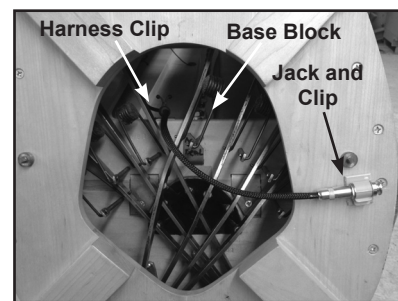

Figure 8 – Using the Jack Clip
1. Route the free end of the pickup harness and the jack down through the hole in the base block and pedal box (*see figure 8*). (If your harp does not have this hole, you will probably need to mount the jack inside the lowest sound hole instead.)
2. Apply the adhesive-backed jack clip to the bottom of the pedal box on the right side, just forward of the A pedal. Place an extra harness clip on the edge of the base block to position the wiring harness to keep it clear of the pedals and pedal springs (*see figure 8*).